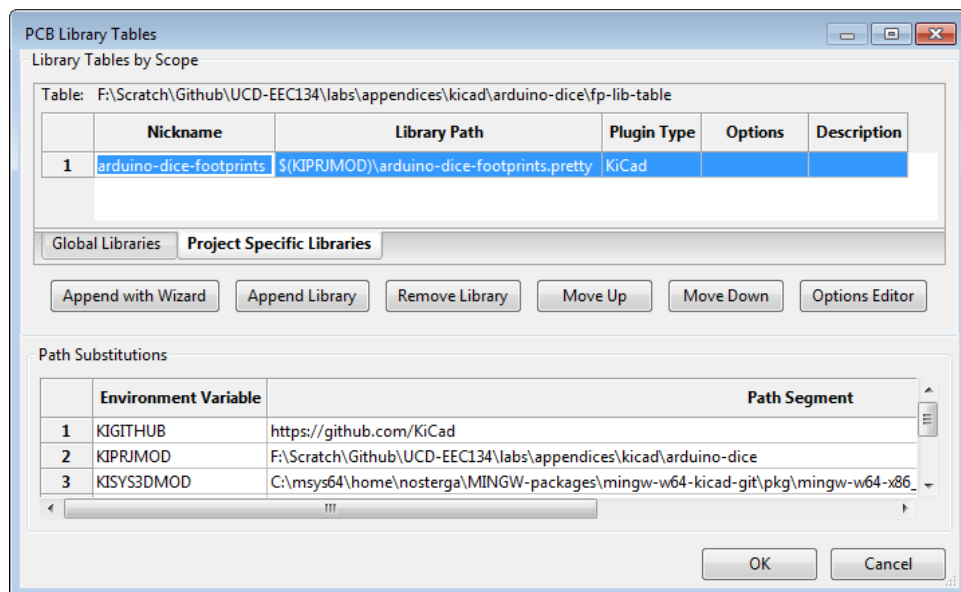

Figure 17: Add a project footprint library.
- e) Select “To the current project only” and click “Finish” to finish adding the footprint library to this project. If you have created a generic library that you want to use across multiple projects, you could select the “To global library configuration” option. Fig. 17 shows how the “PCB Library Tables” looks like now. Notice how KiCad replaces the absolute path with the “KIPRJMOD” variable.